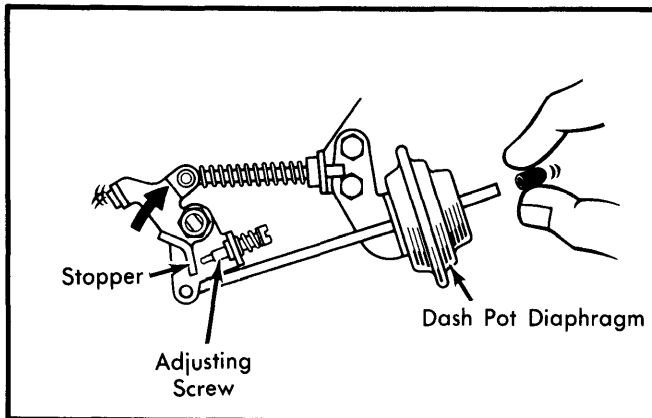

Fig. 7 Adjusting Dash Pot Setting Speed
2) Open throttle valve until dash pot adjusting screw does not rest on stopper. See Fig. 7. Plug dash pot diaphragm port.